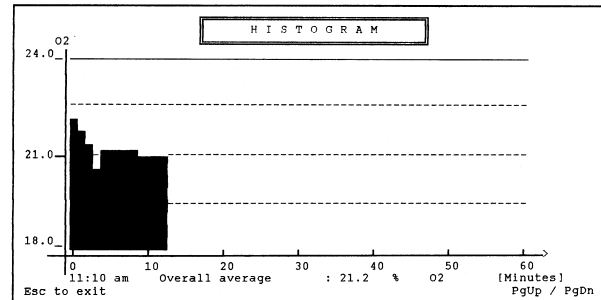

Figure 2-24B: Data Readout, Graph
- If the data storage time is at least 16 minutes, the data is presented in the form of graphs, as in Figure 2-24B.